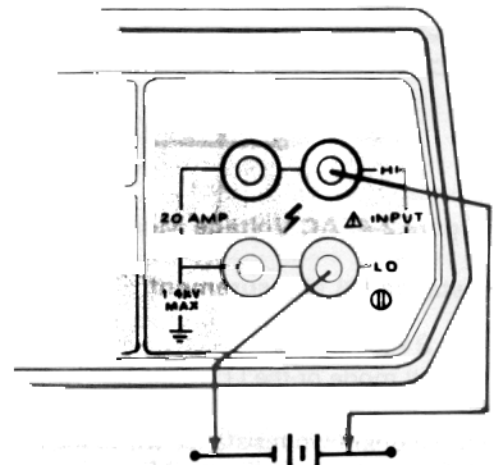

Figure 2-3. DC Voltage Measurement
3. Connect the unknown DC voltage to the INPUT jacks of the Model 179A as shown in Figure 2-3.